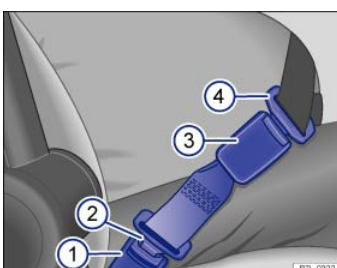

Fig. 37 A safety belt extender properly attached to the factory-installed safety belt.
Key to ⇒ Fig. 37 :
- Insert the buckle tongue on the safety belt extender ⇒ Fig. 37② into the vehicle belt buckle for the seat where the safety belt extender is being used ⇒ Fig. 37①.